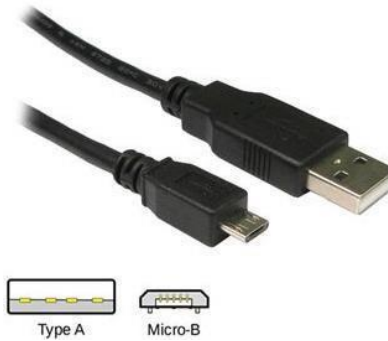

Figure 6-1: USB A to Micro-B Cable
- Micro USB Cable (see Figure 6-1)